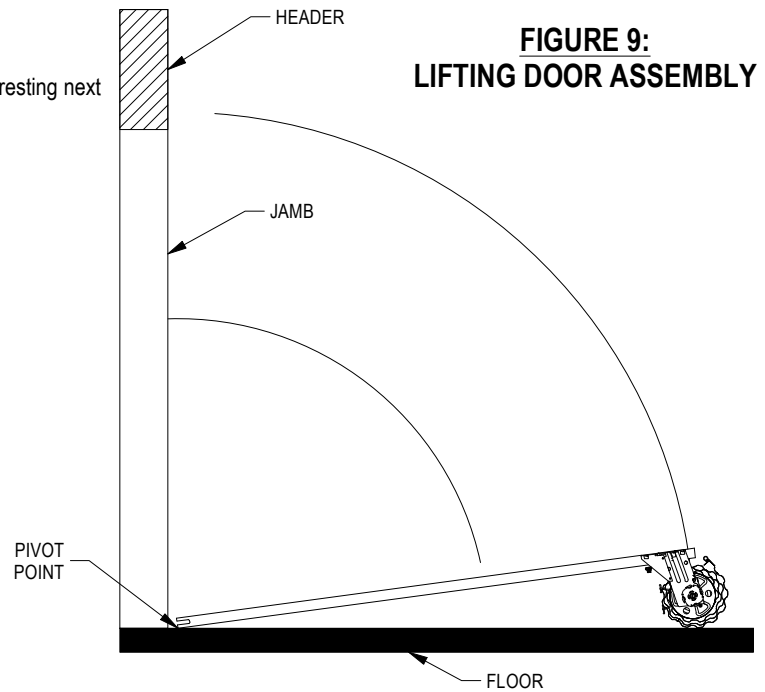

**FIGURE 8:
- ▶ Bring top end of guide in alignment with bracket and insert tabs on bracket into tab slots in guide (**Figure 8**).